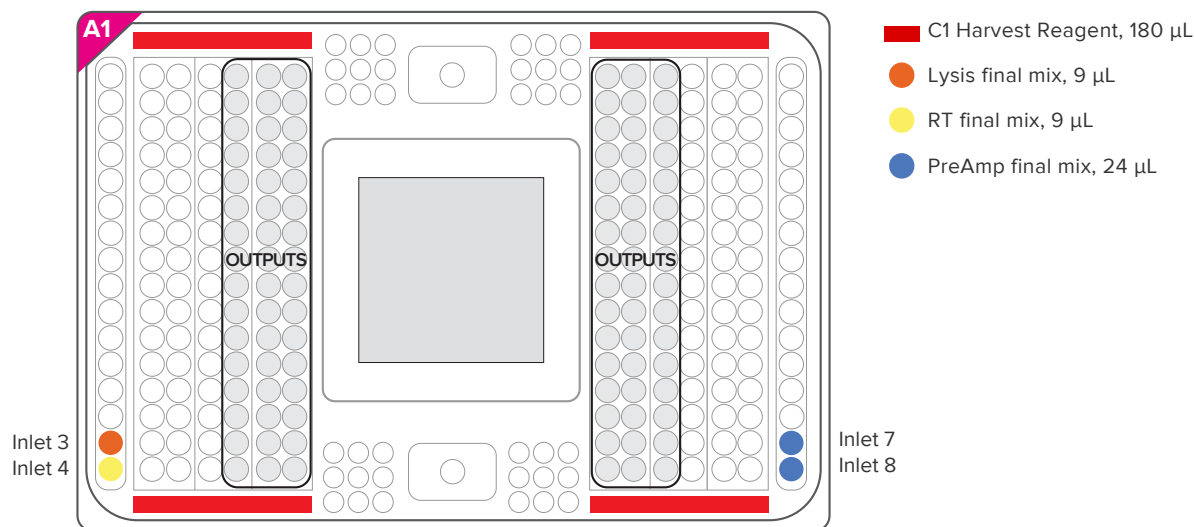

Figure 5: C1 IFC Lysis, RT and PCR pipetting map
- 1 Pipet 180 μ L of C1 Harvest Reagent into the four reservoirs marked with large solid red rectangles in Figure 5.